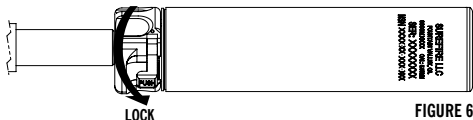

FIGURE 6
4. Rotate the lock ring to locked position following the arrow in Figure 6 until it can no longer be rotated. The lock ring should rotate approximately 180°. Audible clicks will be heard during this process.